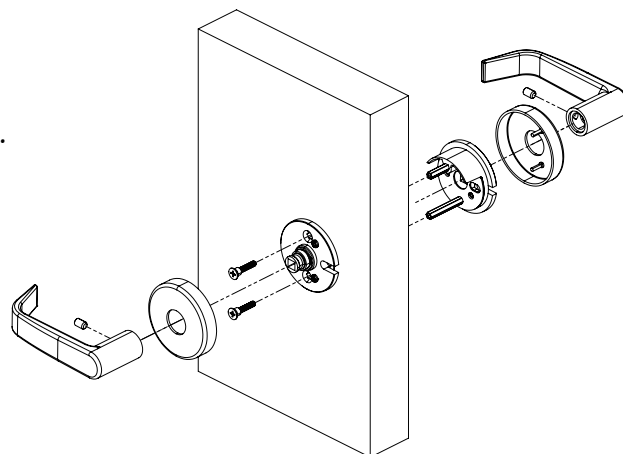

Figure 15
- b Install double dummy trim B10-05 (Figure 15)
- Install inside Spring housing using (2) #8-32UNCx1" screws.